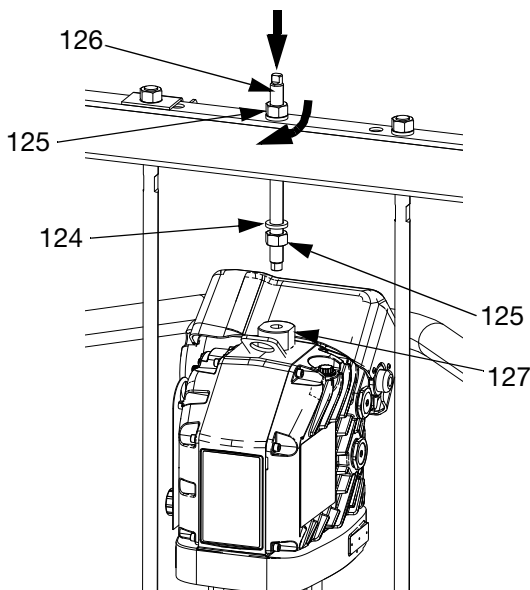

FIG. 30
- b. Install threaded rod (126) through center hole in the crossbar. Install lock washers (124) and nuts (125) onto threaded rod (126), both above and below crossbar. Use wrench to hold lift ring adapter (127) and tighten threaded rod (106) into lift ring adapter (127) using another wrench. See FIG. 30.
- c. Tighten nut (125) below crossbar to 25 ft-lb (34 N•m) maximum.
- d. Tighten nut (125) above crossbar to lock driver in place.